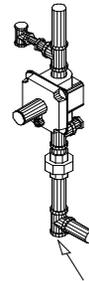

Figure 9
Before starting the machine, purge the air out of the gas line. This is accomplished by pulling the plug out of the end as shown in Figure 9. Purge the air out until there is a smell of gas. Then, put the plug back.
- 2 **Supply Line:** Connect the steam line to the top of the steam headers as shown in Figure 9 to insure a clean, dry steam supply.
- 3 **Shut-off valves** installed ahead of the union and strainer on the "steam-in" and "steam-out" lines and between the union and return header on the "Main Header Trap System" (8), will simplify shut-off for repair and maintenance. "Ball" or "Gate" type valves are recommended for maximum flow.